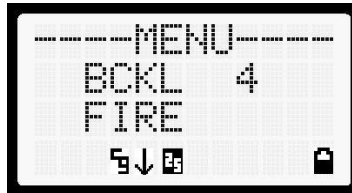

Figure 9-11: Backlight Menu Display
3. Press **M**. The backlight menu item is activated. Line one shows the active menu item and its current parameter setting. Line two shows the currently selected system or group name (see Figure 9-11).